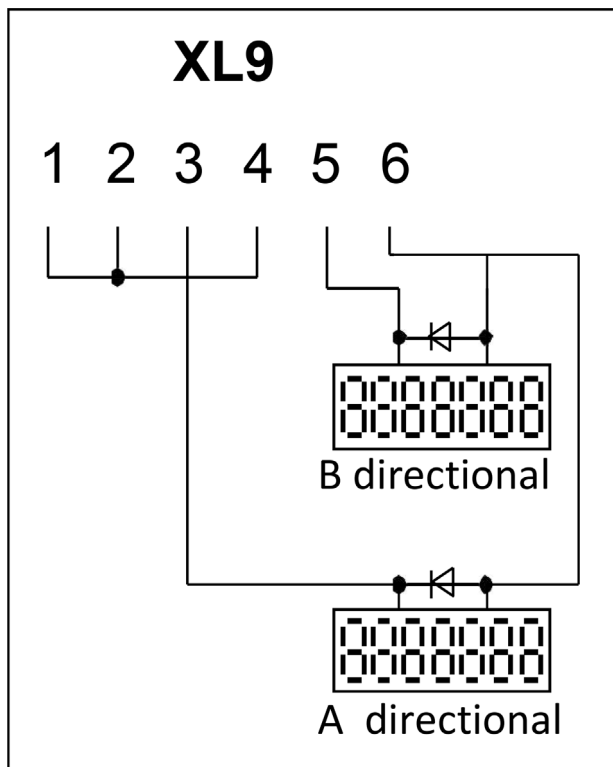

Figure 5.9
Figure 5.9 shows the mechanical counter connection using directional pass relays. It is located on pin 1 of the XL9 terminal (+ 24VDC), this output can be used as the switching voltage to counters. For this purpose, pins 1, 2 and 4 of terminal XL9 must be short-circuited. Pin 6 of the XL9 terminal (GND) is connected to the negative (-) poles of the counters. The diode (1N4007), which is connected in parallel to the poles of the counter, must be fitted in order to prevent interference. Note the direction of the diode in the connection, as the reverse connection may cause malfunction of the turnstile adapter. Finally, pins 3 and 5 of terminal XL9 are connected to the plus (+) poles of the counters. Once the connection is completed, the corresponding counter will increase by one (1) value at each turn of the turnstile.